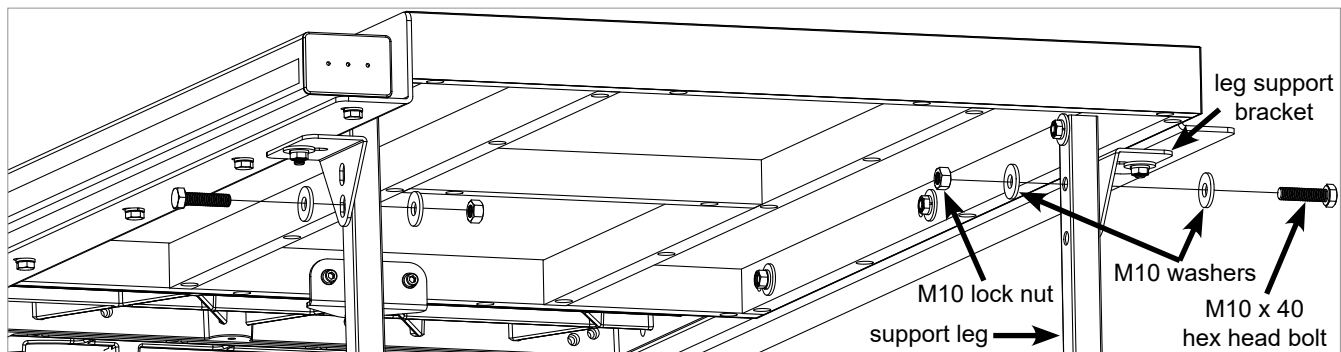

Fig. 20
2. Rotate the legs on a *SawStop*® T-Glide™ Professional Series II extension table out of the way by removing the lower M10 x 40 hex head bolt that mounts each leg its support bracket (see Fig. 20). Use two 17 mm wrenches or adjustable wrenches to remove the bolts. Also remove the corresponding M10 washers and M10 lock nuts.